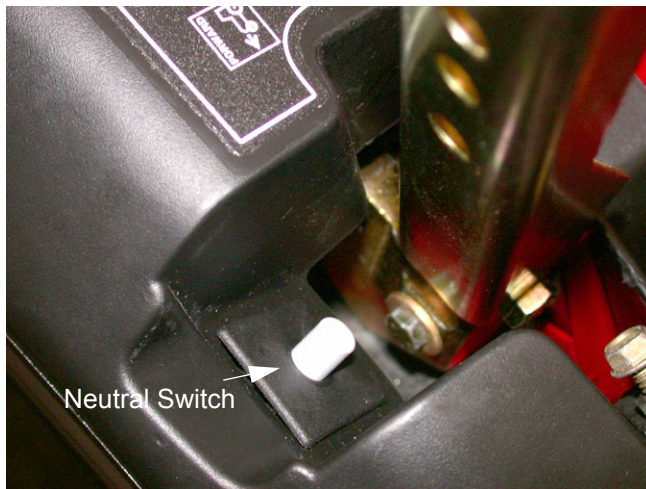

Figure 18.3
18.3. The NEUTRAL SWITCHES are in the console on each side of the unit. They are normally open/normally closed switches. See Figure 18.3.